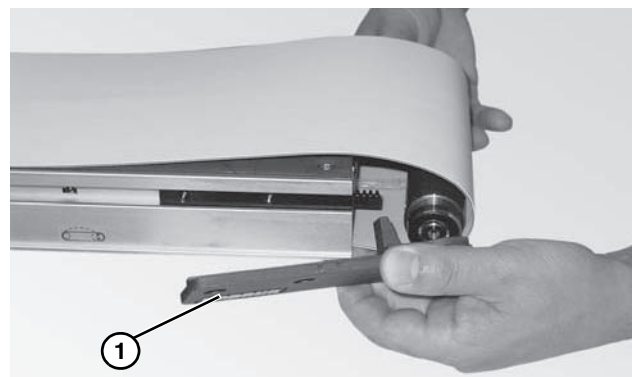

Figure 47
2. Place the head plate (**Figure 47, item 1**) and attach the head plate to the conveyor frame with the two (2) screws removed. Tighten screws 60 in-lb (7 Nm).